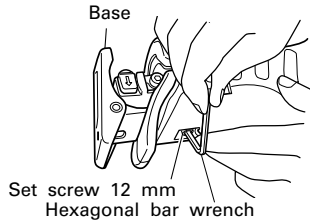
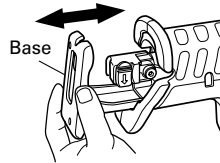

Fig. 12
Fig. 13
- (2) If a base setting screw is loosened with an attached hexagonal bar wrench, you can adjust a base installing position. (**Fig. 12, Fig. 13**)